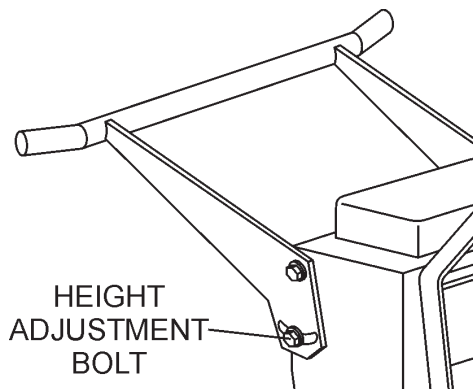

Figure 35. Handle Bar Adjustment Bolts
1. Loosen the height adjustment bolts (Figure 35) on the handle bars until the handle bars can freely pivot.